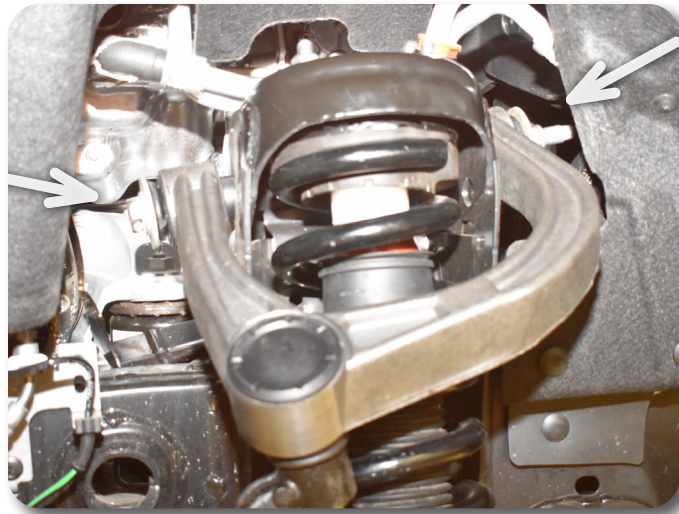

Figure 8
16. Torque upper control arm bushing hardware to 122 ft-lbs **Figure 8**.